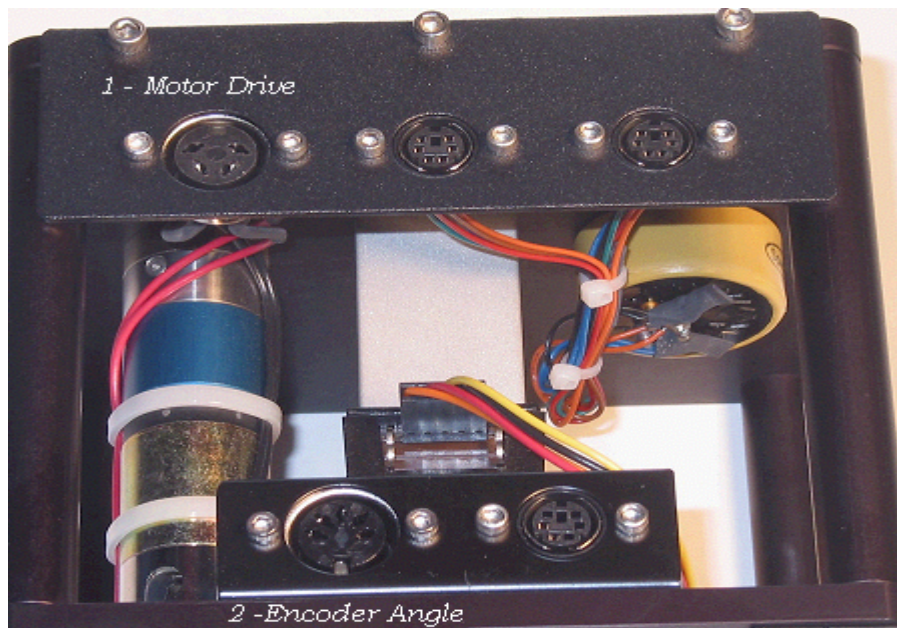

Figure 88 SRV02-E Connections
- Connect a cable of **gain 5** (should be labelled with a #5) from the UPM **To Load** connector to **1 – Motor Drive** of the SRV02-E as labelled in Figure 88 below.
- Connect a cable from **2 – Encoder Angle** (as shown below in Figure 88) of the SRV02-E directly to encoder channel 0 of your DAC card.